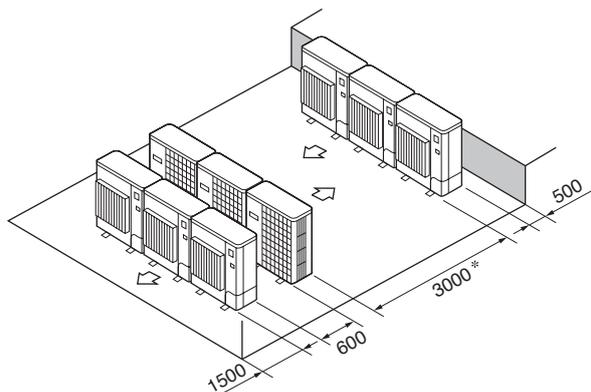

Fig. 15
(6) Multiple parallel unit arrangement (Fig. 15)